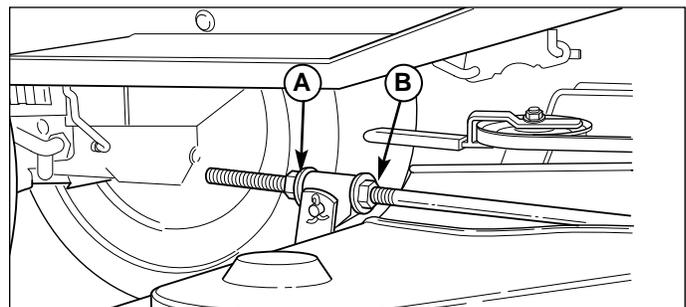

Figure 8. Front to Back Leveling
8. To raise front of mower deck, loosen front nut (B) and turn rear nut (A, Figure 8) against bracket. To lower front of mower deck, loosen rear nut (A) and the bracket will move backwards to lengthen rod.
9. Re-check the blade measurement then tighten the front nut (B) against the bracket to secure.